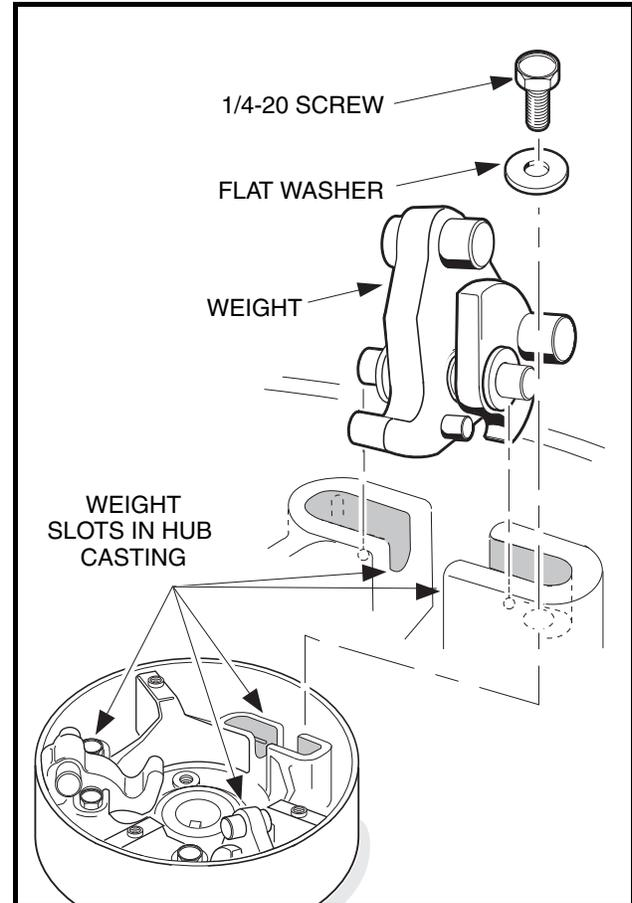
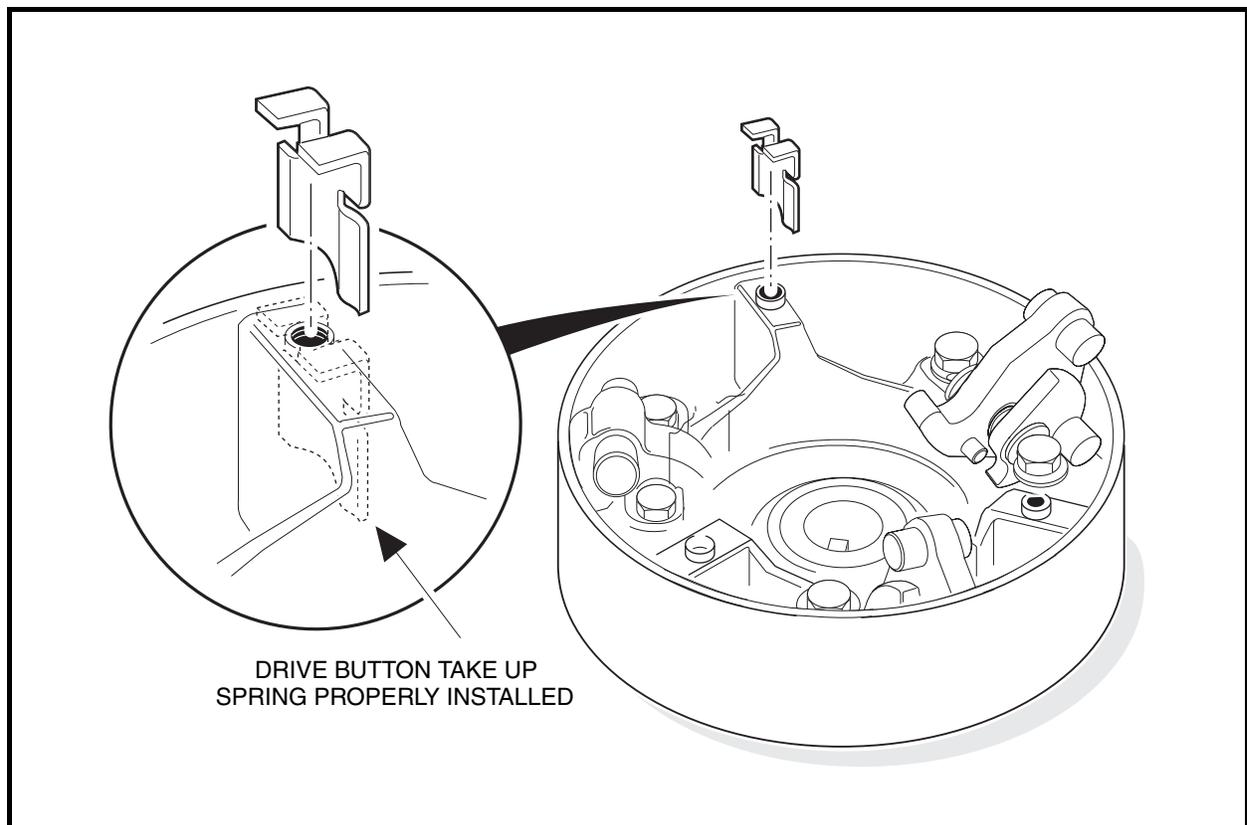

Figure 17-9 Weight Position
**Figure 17-14 Install White Washers**
5. Remove the clutch weights (Figure 17-9, Page 17-8):
- 5.1. Remove the screws and flat washers attaching the weights as shown (Figure 17-9, Page 17-8).
10. Install white plastic flat washers on each end of the mounting pin and push them against the outside surfaces of the weights. Center the weights and washers on the mounting pin (**Figure 17-14, Page 17-10**).
11. Install the weight assemblies into the slots in the hub casting (**Figure 17-9, Page 17-8**). Make sure the mounting pin protrudes an equal amount on each side of the weights when the assemblies are in position (**Figure 17-14, Page 17-10**).
15. Install a no. 10-24 button retaining screw with flat washer through each button and into the rib. Tighten the screws to 34 in-lb (3.8 N·m) (**Figure 17-9, Page 17-8**).